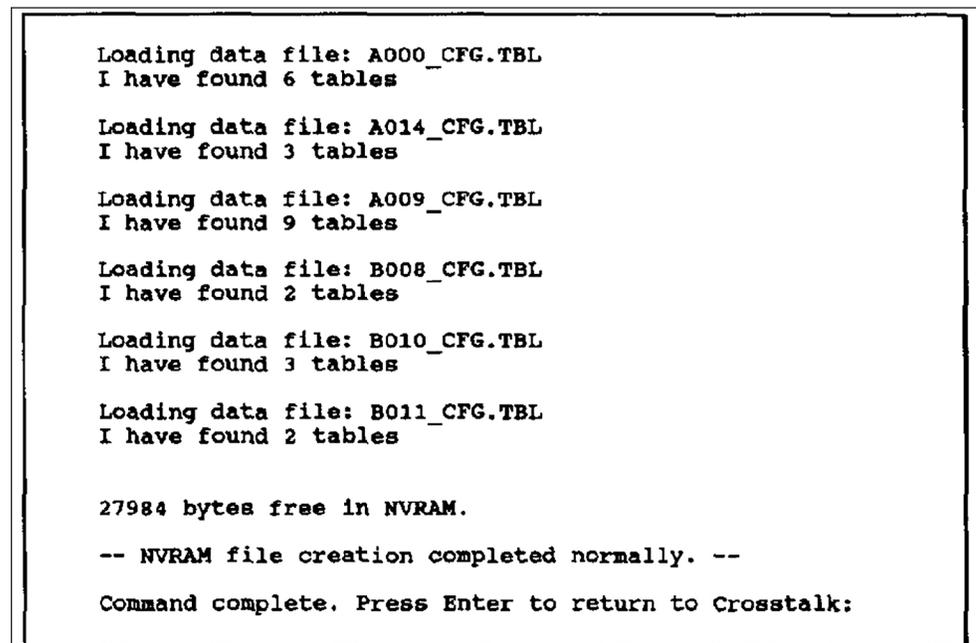

Figure 18. The *NVRAM File Creation Process* screen.
STEP 13. Using the arrow keys, select the **Create NVRAM file** option and press the <ENTER> key. The data files will be compiled and saved on the CPM application configuration files diskette. When compiling is complete, a screen will open similar to the screen in Figure 18.